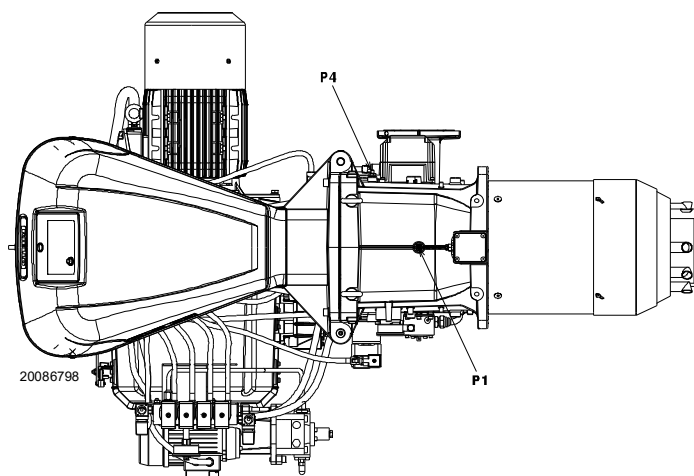

Fig. 24
Gas pressure measured at the test point 1)(Fig. 24), with:
- subtract the combustion chamber pressure from the gas pressure measured at test point 1)(Fig. 24);
- Gas pressure at test point 1)(Fig. 24) = 11.7 "WC